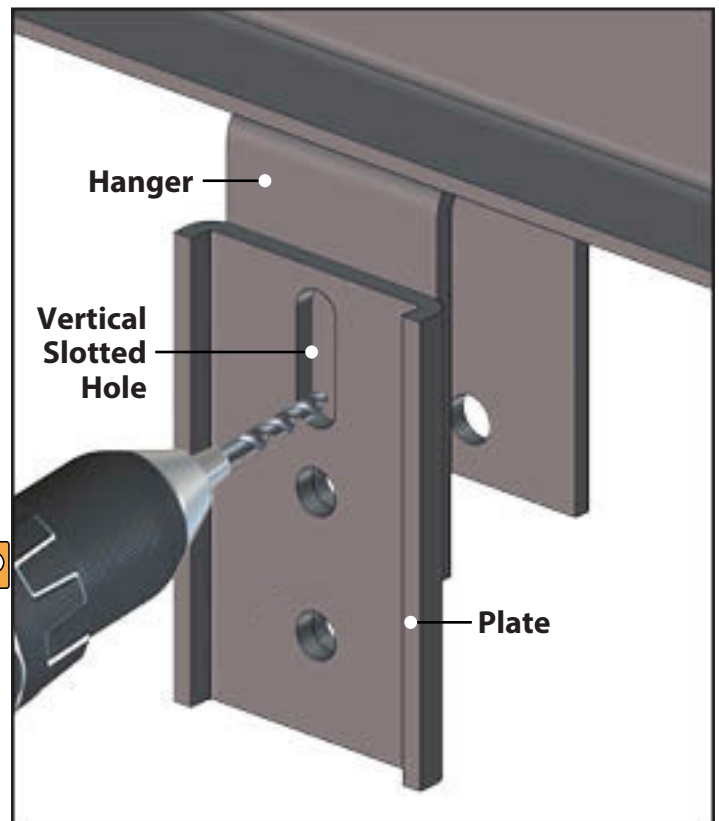

Fig.1
8. Use a 1/4" drill to spot a hole. Go through the vertical 9/16" x 1 5/8" slotted area into the hanger (Fig.1). The hole must be oriented so the bolt inserted later will set against the bottom of the vertical slotted hole.